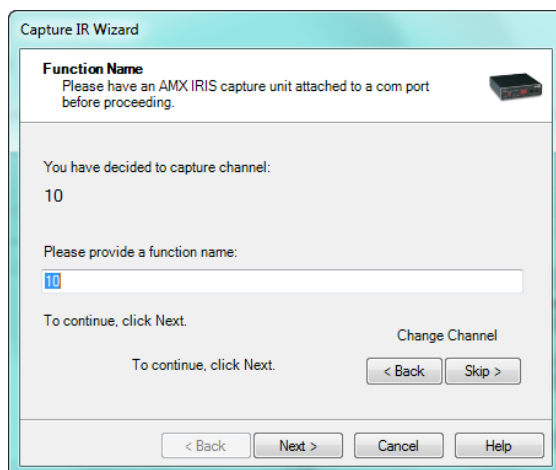

FIG. 30 IR Capture Wizard - Function Name dialog
3. Select **Tools > Capture**. This will launch the *IR Capture Wizard* (FIG. 30):